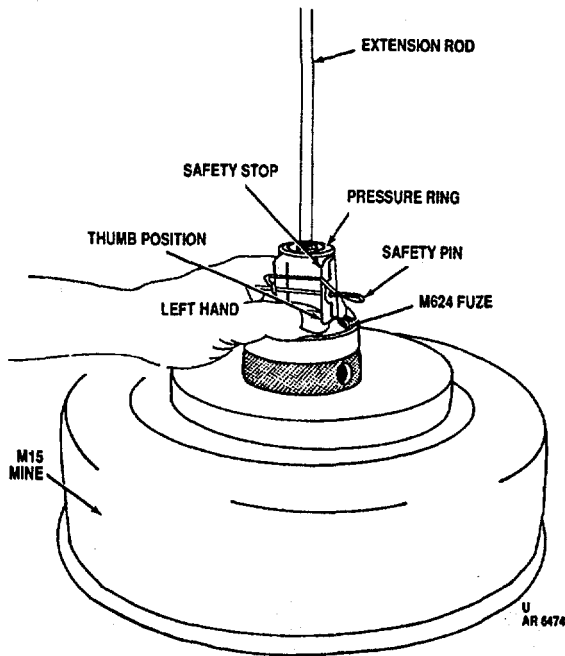
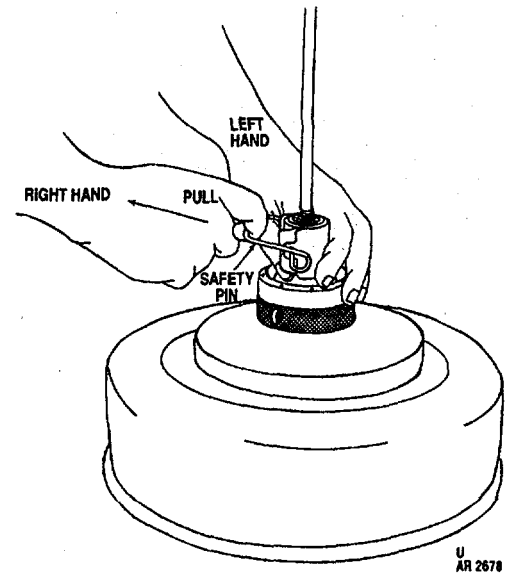
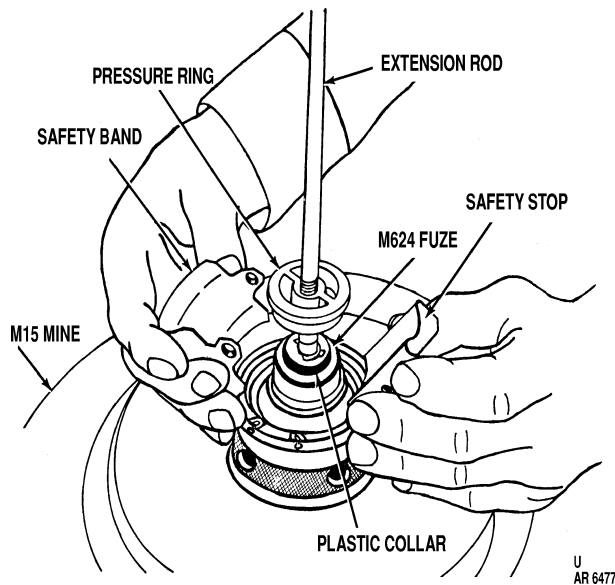

Figure 2-41. Left hand grasping fuze (arming fuze).
Figure 2-42. Pull with right hand (arming fuze).
Figure 2-44. Remove safety band and stop (fuze is armed).
- (19) To arm fuze, lie in prone position, raise safety pin to horizontal position, and grasp safety bank and safety stop with left hand (fig. 2-41) (note position of thumb). With right hand index finger, pull safety pin out while sliding it to the right (figs. 2-42 and 2-43). Carefully remove safety stop while holding safety band in place. If any cracks are noted in plastic collar, while still in prone position, slowly and carefully reassemble stop and safety pin on fuze so that pressure ring is immobilized. Remove extension rod carefully. Remove fuze from mine, using extension rod if necessary. Turn fuze in to ASP for disposal and replace it with a new fuze. If no cracks are noted, carefully remove the safety band (fig. 2-44). **THE FUZE IS NOW ARMED!**